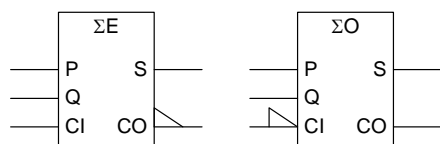

Figure 5.1
5. Figure 5.1 shows two 1-bit full adder modules, labelled  $\Sigma E$  and  $\Sigma O$ , which can be cascaded to form an  $n$ -bit adder with the two modules used respectively for the even and odd numbered bit positions. Thus a  $\Sigma E$  module is used for bit 0, the least significant bit. The propagation delays, in gate delays, of the two modules are